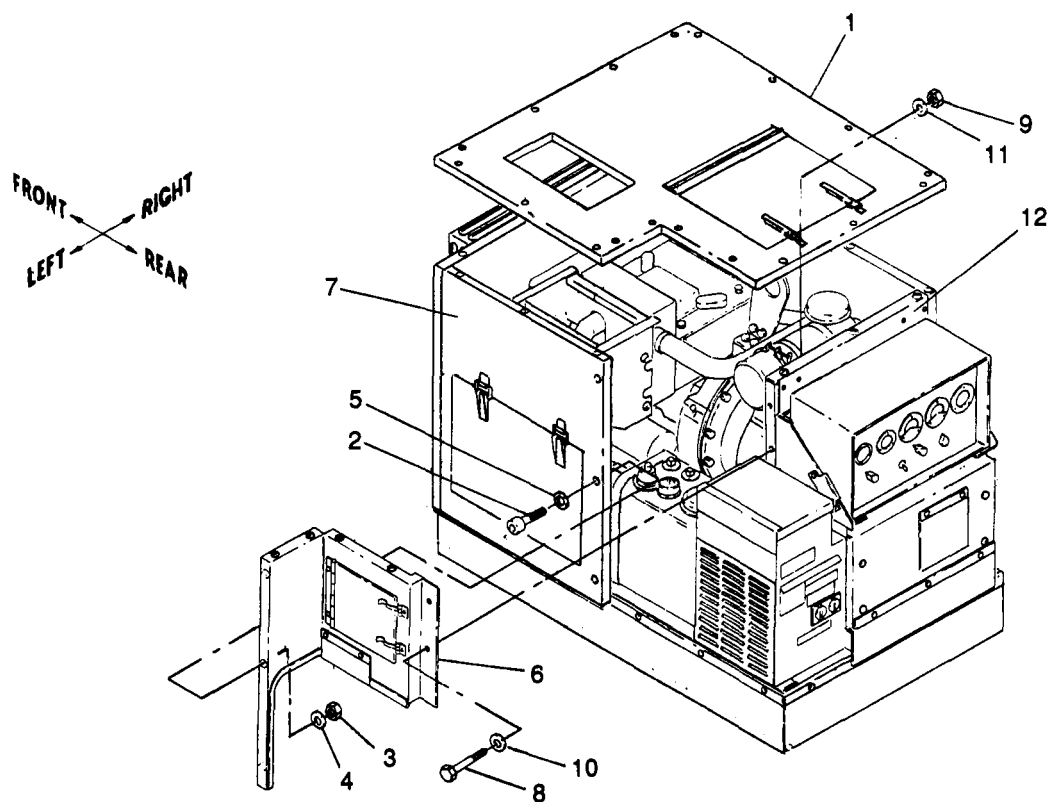

Figure 5-10. Side Closure Assembly, Removal and Installation
a. Removal. See figure 5-10. Remove side closure assembly from rear closure assembly, top and left panel assemblies as follows:
(1) Remove top panel assembly (1) as described in paragraph 5-4.
(2) Remove three screws (2) and locknuts (3) and six washers (4 and 5) securing side closure assembly (6) to left panel assembly (7).
(3) Remove two screws (8) and locknuts (9), and four washers (10 and 11) securing side closure assembly (6) to rear closure assembly (12) and remove side closure assembly (6).
b. Installation. See figure 5-10. Install side closure assembly to rear closure assembly, top & left panel assemblies as follows:
(1) Position side closure assembly (6) against rear closure assembly (12).
(2) Install side closure assembly (6) to rear closure assembly (12) using two screws (8) and locknuts (9), and four washers (10 and 11).
(3) Torque screws (8) to 16 \pm 2 ft-lbs dry.
(4) Install three screws (2) and locknuts (3) and six washers (4 and 5).
(5) Torque screws (2) to 16 \pm 2 ft-lbs dry.
(6) Install top panel assembly (1) as described in paragraph 5-4.
(4) Side Closure Assembly (refer to figure 5-10, item 6).